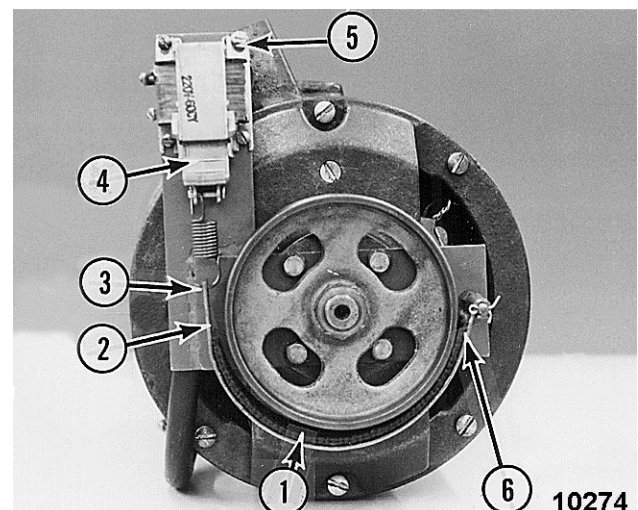

Fig. 117
3. Inspect the brake lining [1] Fig. 117 for excessive wear. Should the brake lining be worn through to the brake band, replace the brake band assembly (refer to MECHANICAL SERVICE, Brake Unit).
4. If there is sufficient brake lining, place the brake spring in the lowest hole [2] Fig. 117 of the brake band.
5. Should more braking action be required, loosen the four mounting screws [5] Fig. 117 on the solenoid and raise it.